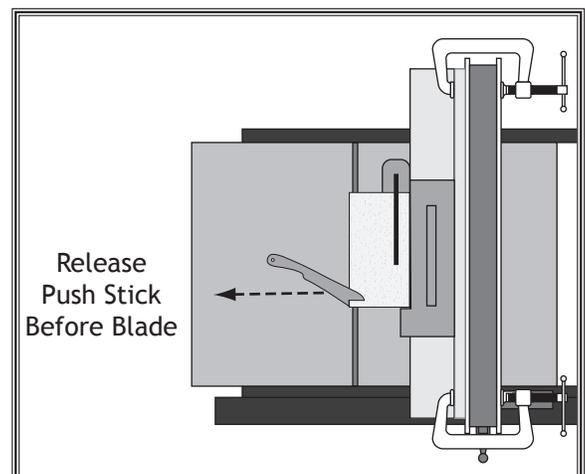

Figure 95. Ripping with push block.
6. Guide workpiece rest of the way through cut with push block, as shown in **Figure 95**.